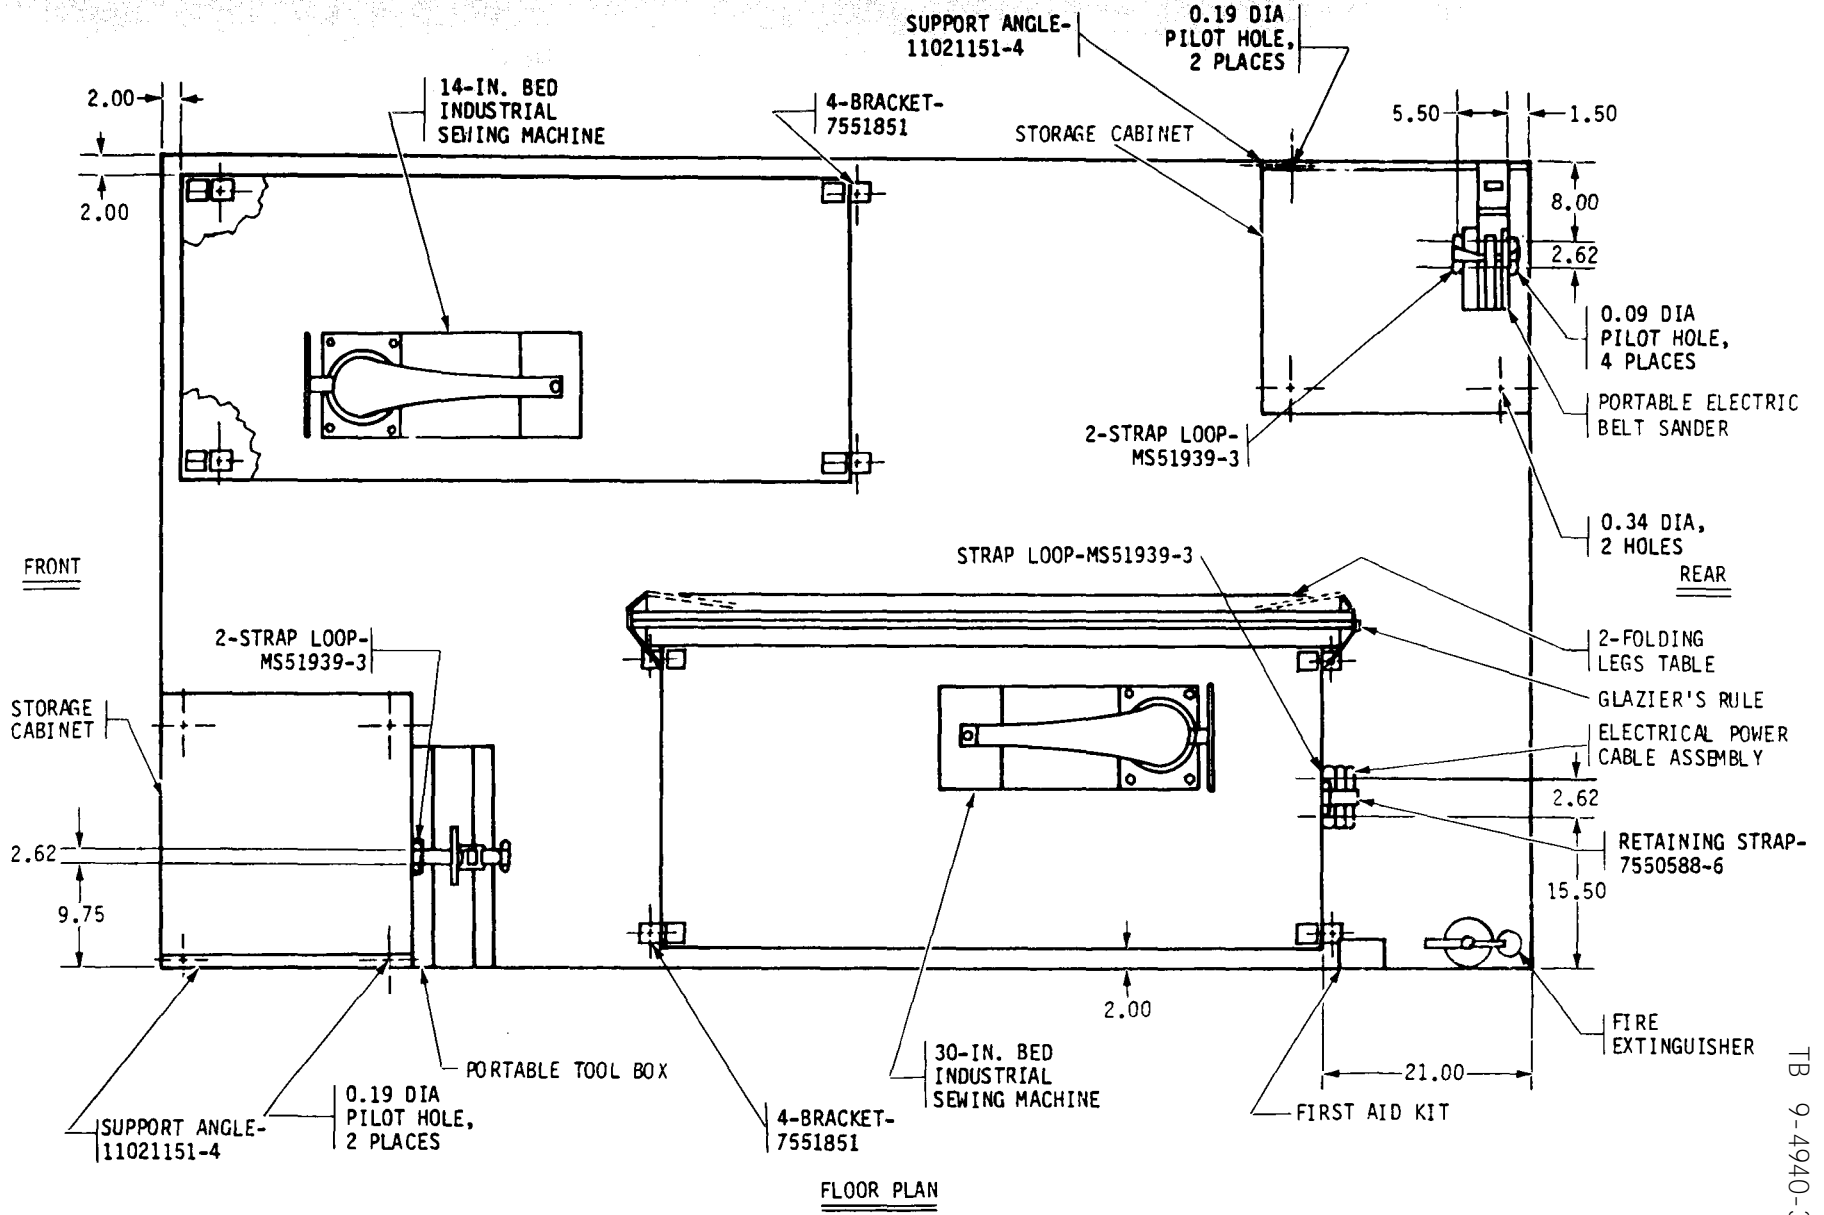

Figure 2. Components to be Mounted, Unit 1, 280, Floor Plan.
Position storage cabinets, 14-in. bed and 30-in. bed industrial sewing machines, first aid kit, and fire extinguisher as shown in figures 2, 4, and 5. Use equipment mounting holes as template for location of blind rivet nuts. Positions may be varied to drill into structural members in fixed floor.
b. Install a strap loop (MS51939-3) in floor using two #10 x 1-in. counter-sunk head machine screws (MS35190-275) in accordance with figures 2 and 3.
(1) Position storage cabinet (7125-00-330-0130) in left front corner in accordance with figure 2. Mark and drill two 0.34-in. diameter holes through storage cabinet bottom plate. Locate holes at the two corners allowing for minimum required clearance for 5/16-in. hex head capscrews. Secure storage cabinet to floor-mounted blind rivet nuts using two 5/16-in. lockwashers (MS35338-45) and two 5/16- x 1-in. hex head capscrews (MS90725-34).
(2) Using support angle (11021151-4) as a template, mark and drill two 0.19-in. diameter pilot holes, 2-1/2 inches from each end of support angle, into storage cabinet top in accordance with figure 2. Position support angle and secure to wall-mounted blind rivet nuts using two 5/16-in. lockwashers (MS35338-45) and two 5/16- x 1-in. hex head capscrews (MS90725-34). Secure support angle to storage cabinet using two 5/16-in. lockwashers (MS35338-45) and two 5/16- x 1-in. hex head lag bolts (MS16992-520).
(3) Using strap loop (MS51939-3) as a template, mark and drill two 0.19-in. diameter holes in metal side of storage cabinet in accordance with figures 2 and 4. Secure strap loop to storage cabinet using two 3/16-in. blind rivets (MS20601-MP6W2).
(4) Position portable tool box (5140-00-315-2758) in accordance with figures 2 and 4 and secure to storage cabinet and floor-mounted strap loop using a 30-in. retaining strap (7550588-8).
(5) Position 14-in. bed industrial sewing machine (3530-00-892-4630) in front right corner of 280 shelter in accordance with figures 2 and 5. Using bracket (7551851) as a template with the 2-1/2-in. leg on the floor, mark and drill four 0.28-in. diameter holes through industrial sewing machine table legs, one hole for each leg.
(6) Secure four brackets (7551851) to 14-in. bed industrial sewing machine table legs in accordance with figures 2 and 5, using four 1/4- x 3-in. hex head capscrews (MS90725-18), four 9/32-in. flat washers (MS27183-10), four 1/4-in. lockwashers (MS35338-44), and four 1/4-in. hex nuts (MS51967-2).
(7) Secure 14-in. bed industrial sewing machine table to floor-mounted blind rivet nuts using four 5/16-in. lockwashers (MS35338-45) and four 5/16- x 1-1/4-in. hex head capscrews (MS90725-36).
(8) Position 30-in. bed industrial sewing machine (3530-00-892-4652) on left side of shelter in accordance with figures 2 and 4. Repeat steps (5), (6), and (7) for mounting 30-in. bed industrial sewing machine to floor-mounted blind rivet nuts using four brackets (7551851), four 1/4- x 3-in. hex head capscrews (MS90725-18), four 9/32-in. flat washers (MS27183-10), four 1/4-in. lockwashers (MS35338-44), four 1/4-in. hex nuts (MS51967-2), four 5/16-in. lockwashers (MS35338-45), and four 5/16- x 1-1/4-in. hex head capscrews (MS90725-36).
(9) Position a storage cabinet (7125-00-330-0130) in right rear corner in accordance with figure 2, with front
(10) Using two strap loops (MS51939-3) as a template, mark and drill four 0.09-in. diameter pilot holes in storage cabinet top in accordance with figure 2. Secure two strap loops to the storage cabinet top using four #10 x 1-in. flat head wood screws (MS35492-78).
(11) Secure portable electric belt sander (5130-00-596-9725) to storage cabinet using a 30-in. retaining strap (7550588-8) in accordance with figures 2 and 5.
(12) Using a strap loop (MS51939-3) as a template, mark and drill two 0.09-in. diameter pilot holes on the rear end of the 30-in. bed industrial sewing machine table in accordance with figures 2 and 4. Secure strap loop using two #10 x 3/4-in. flat head wood screws (MS35492-76).
(13) Secure electrical power cable assembly (6150-00-682-3460) to 30-in. bed industrial sewing machine using a 12-in. retaining strap (7550588-6) in accordance with figure 2.
(14) Position two folding legs tables (7195-00-357-7480) on edge and lengthwise with tabletops facing each other, in accordance with figures 2 and 4. Place glazier's rule (5210-00-819-7589) between tabletops. Secure folding legs tables to 30-in. bed industrial sewing machine table legs using two 66-in. retaining straps (7550588-9).
(15) Position mounting bracket of fire extinguisher (4210-00-555-8837) on left wall in accordance with figures 2 and 4. Mark and drill three 0.22-in. diameter holes in bracket and position
and mark and drill three 0.22-in. diameter holes in back of case. Position first aid kit over installed blind rivet nuts in accordance with figures 2 and 4. Secure to wall using three #10 x 1-in. countersunk head machine screws (MS35190-275). Install contents of first aid kit.